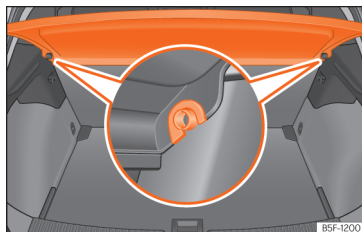

Fig. 181 In the boot: removing and installing the shelf.
- Remove the rear shelf from the side supports >>> Fig. 181 by pulling it upwards and then take it out.
- Insert the cover horizontally so that the "recess" fits onto the axis of the supports >>> Fig. 181 and press down until it engages.